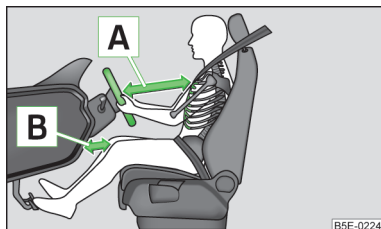

Fig. 113
- Adjust the steering wheel so that the distance **A** » Fig. 113 between the steering wheel and your chest is at least 25 cm. Adjust the distance between the legs and the dash panel in the knee airbag area so that there is a distance of at least 10 cm **B**. Not maintaining this minimum distance will mean that the airbag system will not be able to properly protect you – hazard!